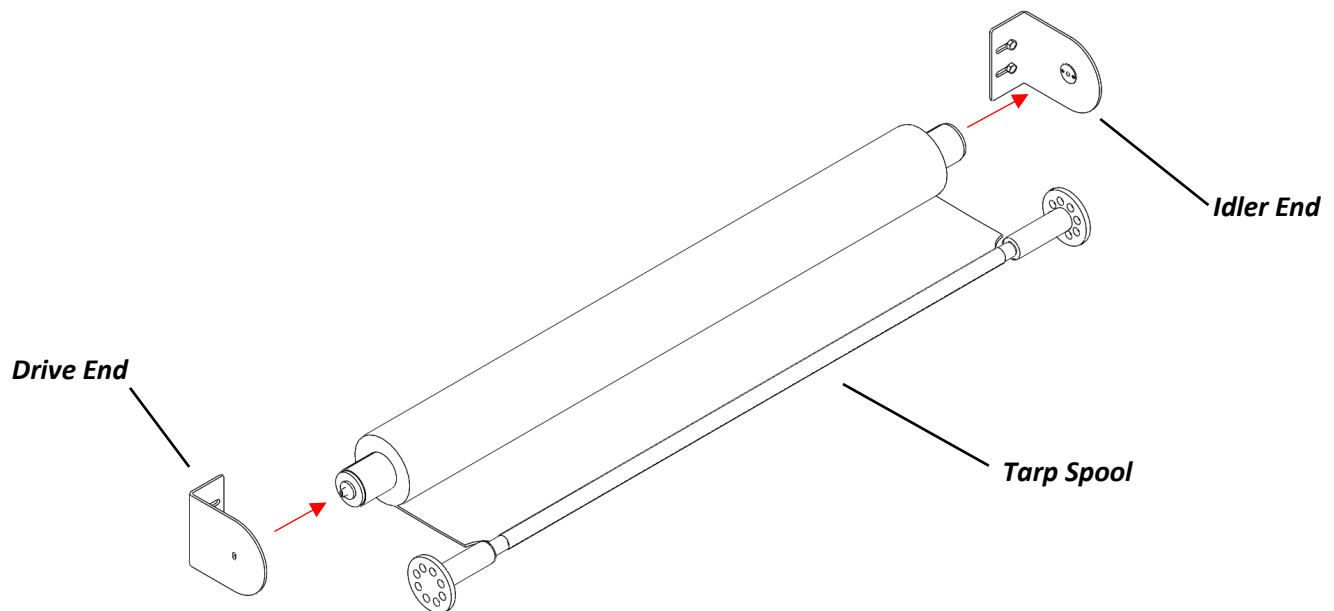

Figure 1: Spool assembly before tensioning
3. Slide tarp spool into idler endplate and add drive plate to the keyed end of the spool. (FIGURE 1)